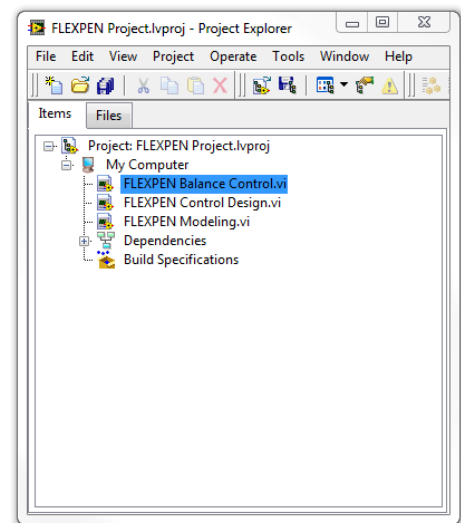

Figure 4.1: LabVIEW Flexible Pendulum Project
2. Open the *FLEXPEN Project.lvproj* LabVIEW project, shown in Figure 4.1.